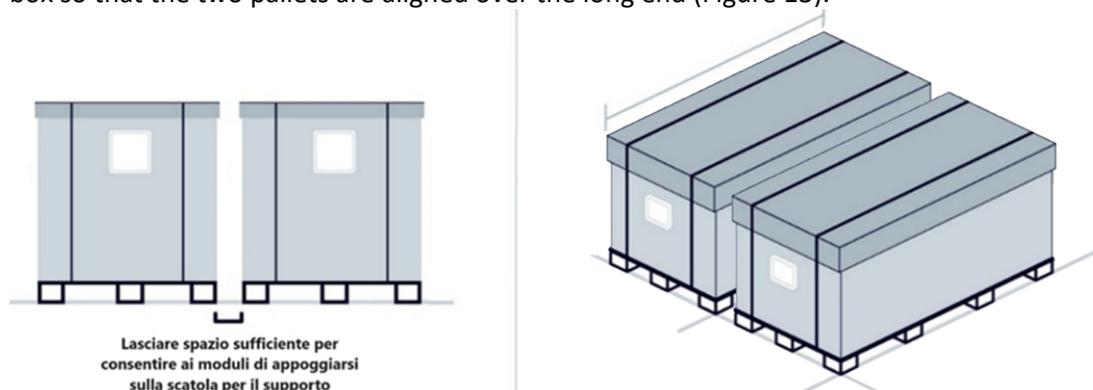

Figure 13: Boxes correct alignment.
3. Unstack the top box by using adequate tools, such as a forklift, and place it alongside the bottom box so that the two pallets are aligned over the long end (Figure 13).